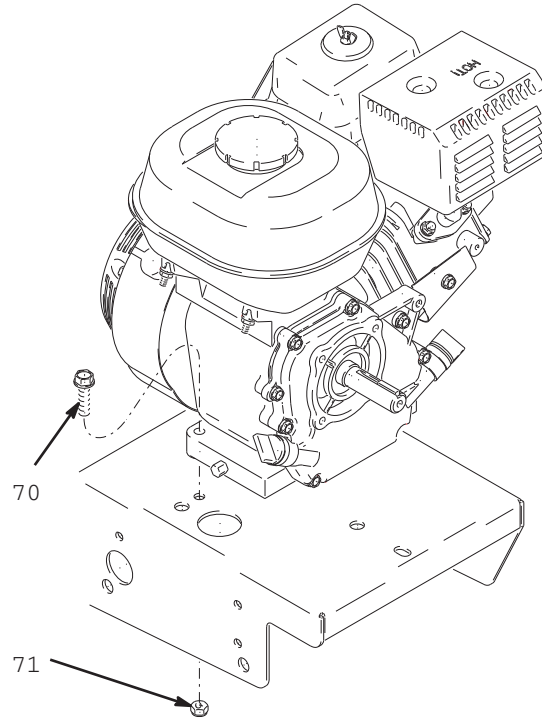

FIG. 18
1. Lift engine carefully and place on cart (FIG. 18).
2. Install two screws (70) in base of engine and secure with lock nuts (71) (FIG. 18). Torque to 200 in-lb (22.6 N.m).